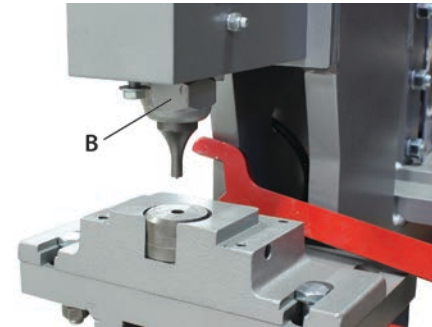

Figure 2
4. Using the punch nut wrench, loosen the punch retaining nut (B, Figure 2). Continue to unscrew the nut from the threaded punch ram and remove.